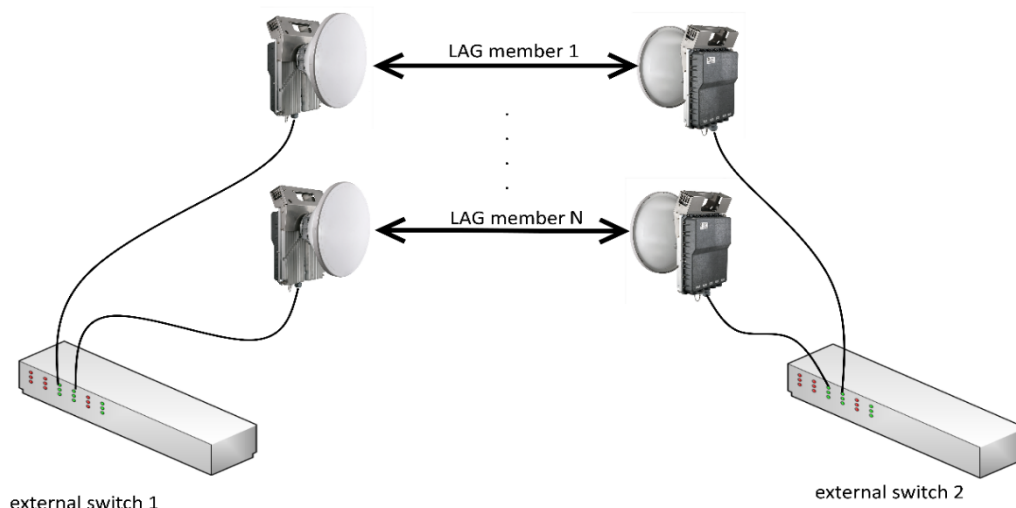

Figure 5-8 Link aggregation with LSP
For example, let's look at a time delay at LACP when detecting the fault of a LAG (Link Aggregation Group) member. Please see Figure 5-8 Link aggregation with LSP Figure 5-8 below.
- 1) Check the management channel configuration – if the management is accessible only through the port with enabled LSP, access to the radio will be lost. To avoid this, we recommend using a different port for the management when using LSP or Backup-Link functionality. Management cables are not shown in Figure 5-8.